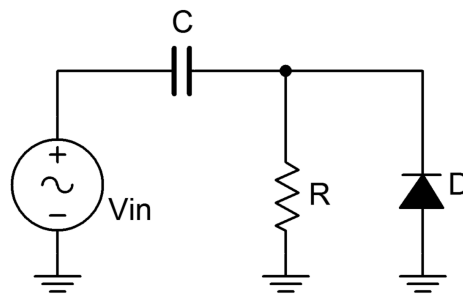

Figure 2
4. Consider the circuit of Figure 2 using $V_{in} = 5$ volts peak at 1 kHz, $R = 100\text{ k}\Omega$ and $C = 100\text{ nF}$. Determine the input signal's period and the RC time constant. Record these values in Table 2. For a large time constant, the capacitor voltage can be thought of as stable, basically a DC voltage. Initially, this voltage is zero. On the positive input half-wave, the diode is reverse biased and all of the signal drops across the resistor. On negative portions though, the diode is forward biased, limiting the output voltage to within one diode drop of ground. Also, the capacitor will begin to charge, eventually reaching the peak voltage of the input. This potential will add a DC offset to the input signal resulting in a clamped output.
5. Build the circuit of Figure 2 using $R = 100\text{ k}\Omega$ and $C = 100\text{ nF}$. Set V_{in} to a 5 volt peak sine at 1 kHz. Set the scope inputs to DC coupled and apply the probes to the input and output points. Record the positive and negative peak values of the output waveform in Table 3.